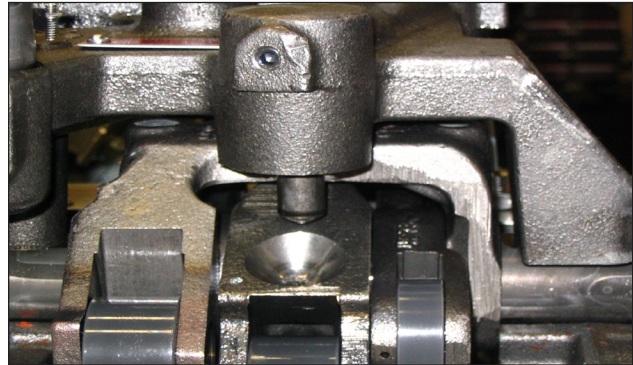

Fig 10
3. Set front & rear Jake Brake housings on rocker shafts locating on retorqued studs. Ensure that master piston pushrods will engage with pocket located on top of injector rocker arm (see Fig. 10).